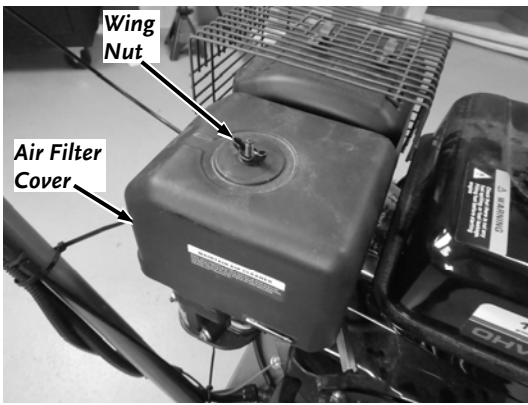

Figure 24
1. Remove the Air Filter Cover by removing the Wing Nut and lifting the Cover up off the Filter Base (**Figure 24**).